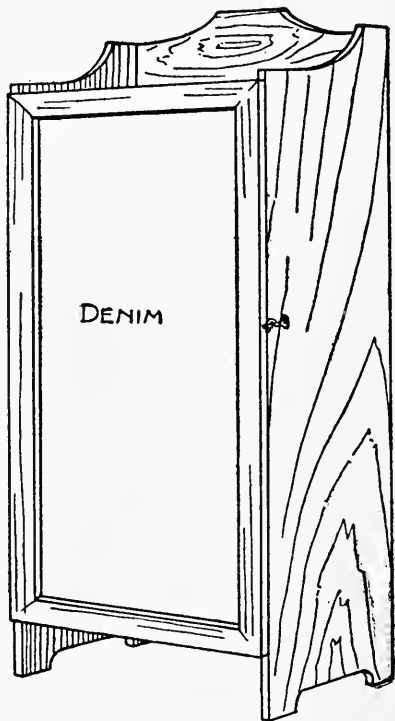

FIG. 59.— A Curio-cabinet.
**A Curio-cabinet**, similar to Fig. 59, will make it possible